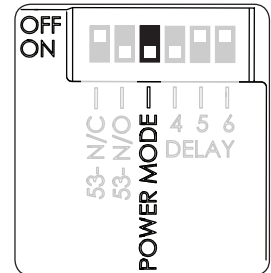

Fig. 6 DIP Switch Setting for POWER MODE Installation
3. Ensure DIP switch (position 3) enables **POWER MODE** (Fig. 6).
<ul style="list-style-type: none">o Check inputs to confirm proper voltage and wiring orientation (Fig. 6 ElectroLynx POWER MODE Installation).o Remove end cap from rail and confirm that LED is blinking steadily when power is applied. If not, refer to LED signaling. Note: When configured in POWER MODE, power is released to lock the device (LED will not blink when power is released).o Confirm DIP switch position 3 is set to ON.